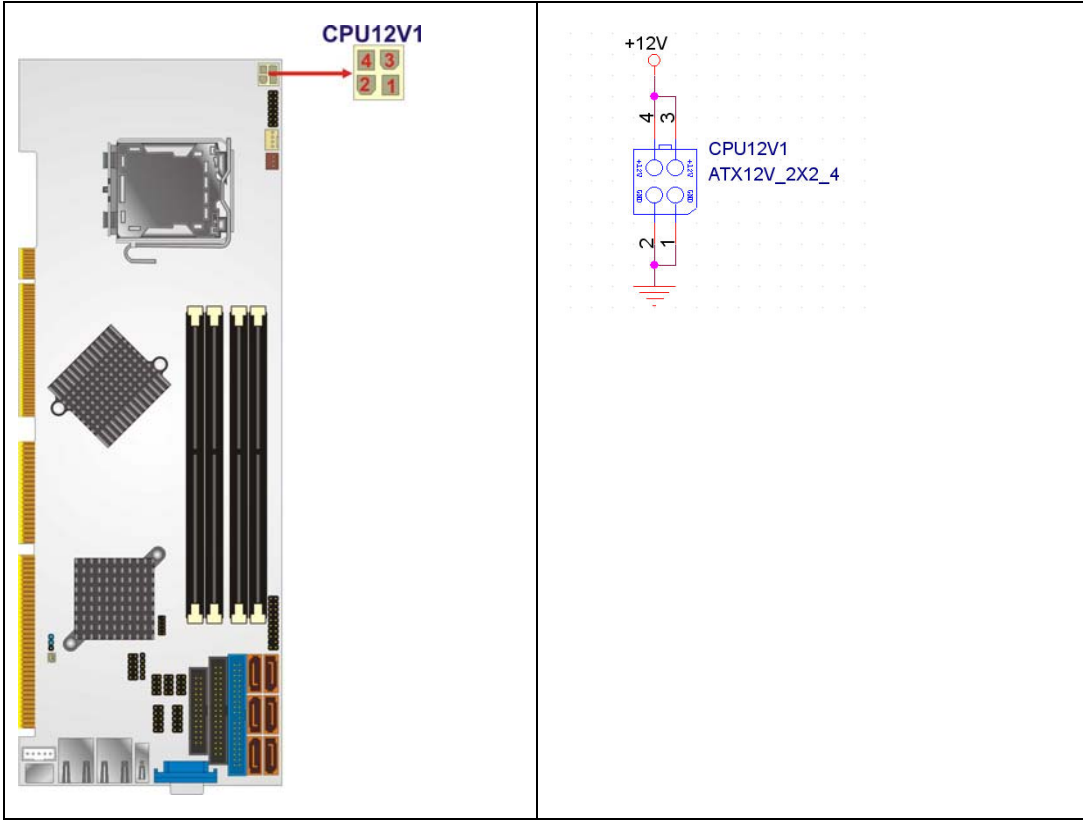

Figure 4-3: CPU Power Connector Location
- CN Location:** See **Figure 4-3**